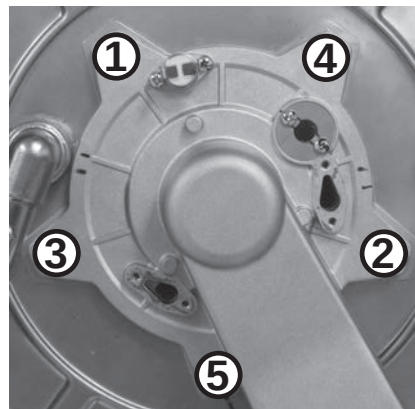

Figure 114 - Remove burner door hex nuts
- 16** Locate the five (5) hex nuts securing the burner door assembly to the heat exchanger as shown in Figure 114. Use a 10 mm hex socket to remove hex nuts. Place hex nuts aside in a safe location for reinstallation.
NOTICE: Star pattern in Figure 114 above **MUST** be followed during reinstallation of screws to burner door assembly.
- 29** Install burner door assembly over bolts in heat exchanger. Locate the five (5) hex nuts previously removed in **Step 16**. Hand tighten the hex nuts, then use a 10 mm hex socket to tighten each nut in a star pattern as indicated by the numbers (1-5) adjacent to the bolt holes. Torque hex nuts to 7.4 ft-lbs. (10 Nm). See Figure 114 as reference.